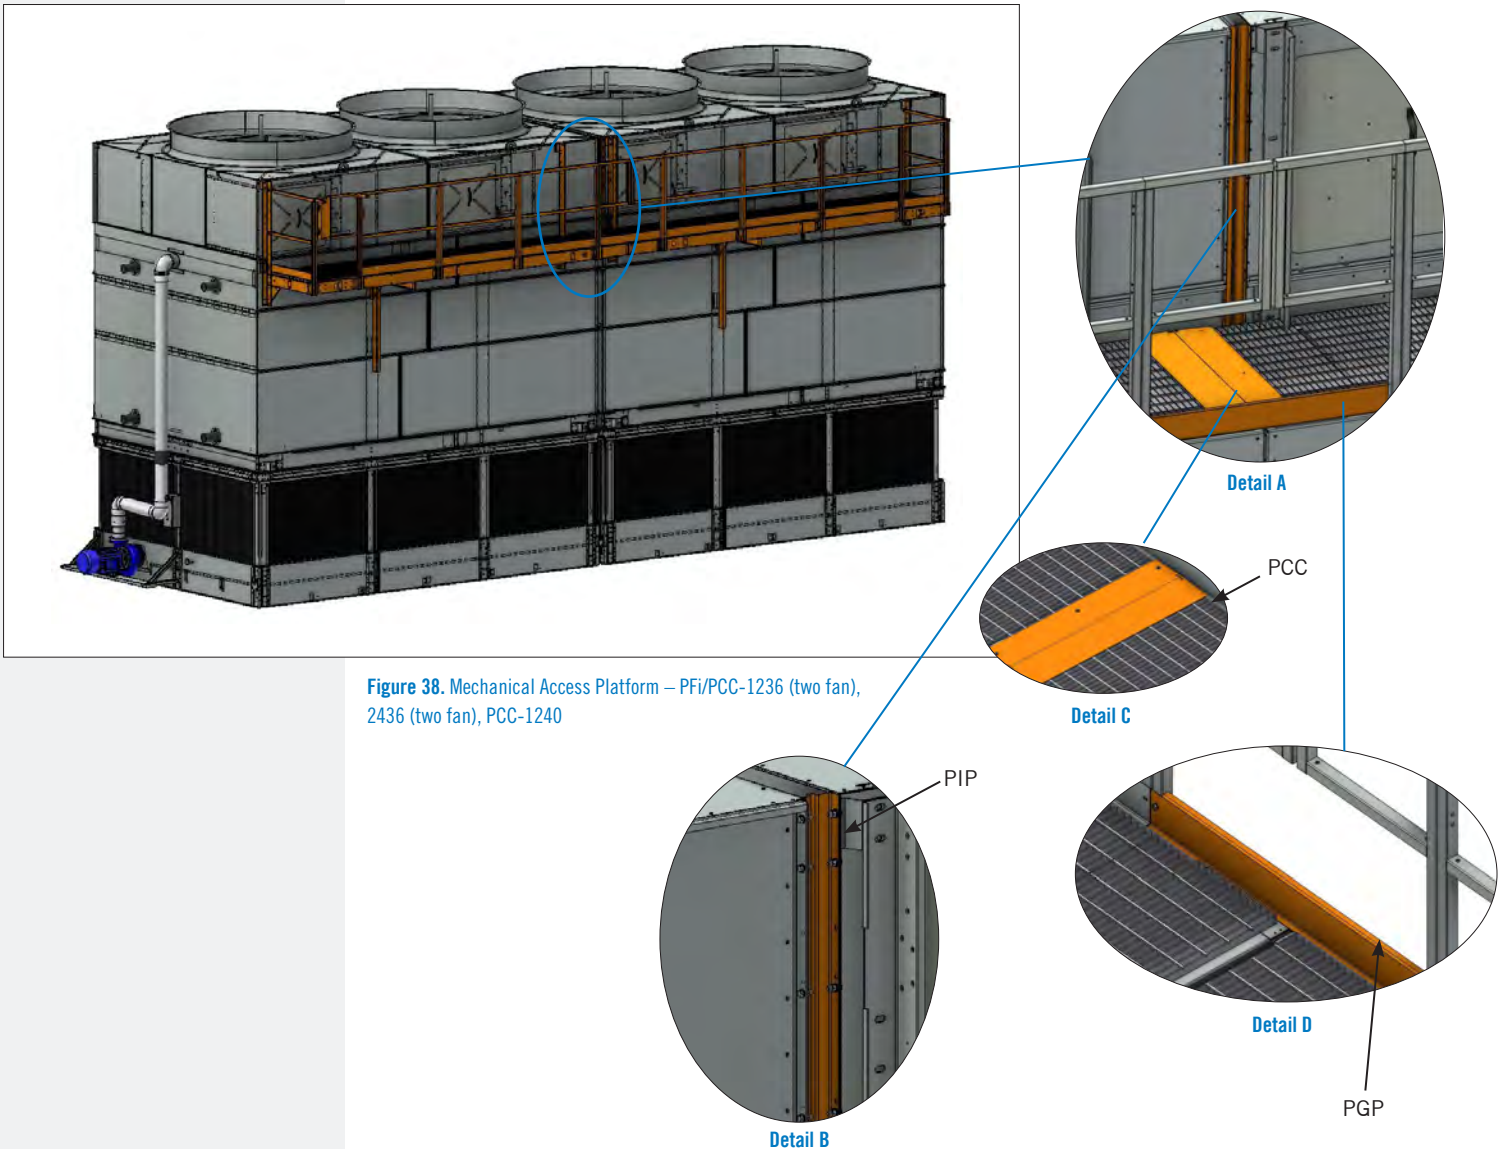

Figure 38. Mechanical Access Platform – PFi/PCC-1236 (two fan), 2436 (two fan), PCC-1240
2. For the two fan PFi/PCC-1236 and 2436, the Mechanical Access platform spans two cells. See **Figure 38, Details A to D** for the bridging components.